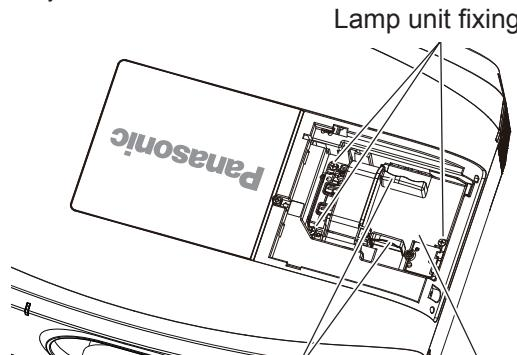

Fig. 2
- 3) Remove the lamp unit. (Fig. 2)